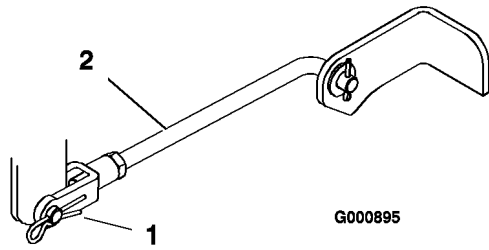

Figure 47
- Remove the hairpin cotter and clevis pin from the front trunion yokes (Figure 47).
8. Attach the front trunion rods to the tractor with the clevis pins and hairpin cotters (Figure 47).